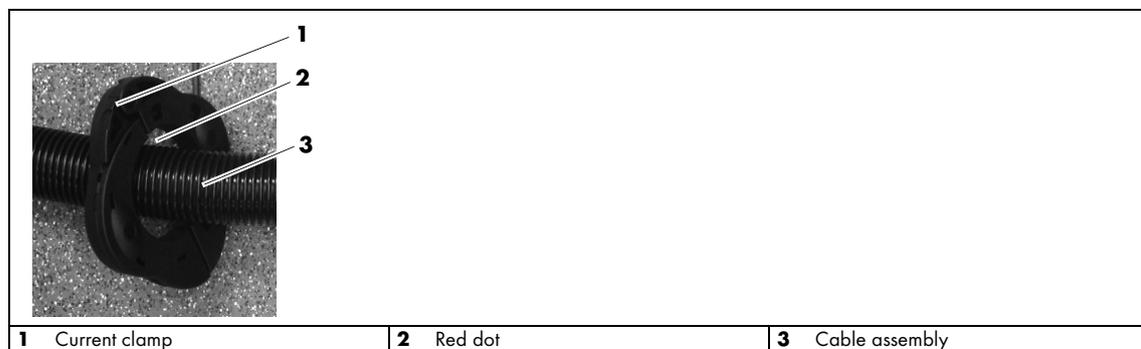
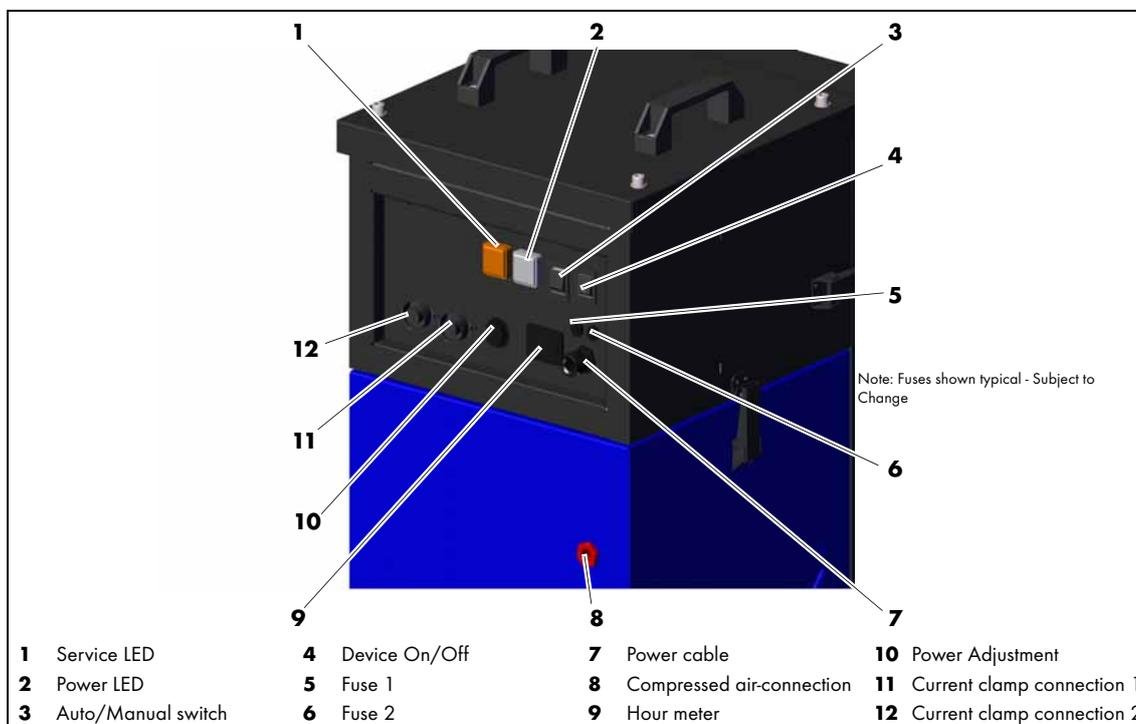

Fig. 4 Mounting the current clamp
Fig. 5 Control elements/ports
⇒ Fig. 5 on page EN-13.
⇒ Fig. 5 Control elements/ports on page EN- 13
- 1 Attach the current clamp **(1)**, Fig. 4 to the current clamp port **1(11)**, Fig. 5.
- 1** Turn off the extraction system by setting the Device On/Off switch **(4)** to "Off" (Fig. 5).
- 1 Turn off the extraction system by setting the Device On/Off switch **(4)** to "Off" (Fig. 5).